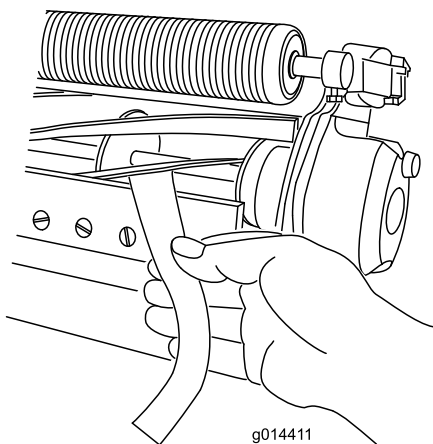

Figure 5
2. Bedbar-adjusting-screw nut (2)
- B. Insert a long strip of cutting performance paper between the reel and bedknife, perpendicular to the bedknife (Figure 5), then **slowly** rotate the reel forward; it should cut the paper; if not, repeat steps A and B until it does.
11. Insert a long strip of cutting performance paper (Toro Part No. 125-5610) between the reel and bedknife, perpendicular to the bedknife (Figure 5), then **slowly** rotate the reel forward; it should cut the paper; if not, turn each bedbar adjusting bolt clockwise 1 click and repeat this step until it cuts the paper.